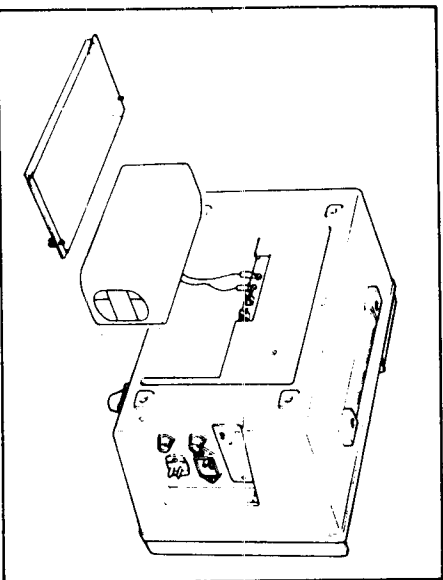

Figure 4-1.
- (1) Remove the rear panel as shown in Figure 4-1.